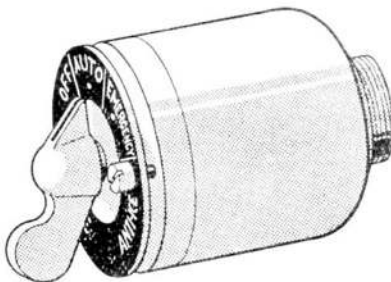

Fig. 1. Rotary switch, Type RS331, Mk. 2
2. A general view of the switch is given in fig. 1, with a sectional drawing in fig. 2. The switch has three positions, OFF, AUTO and EMERGENCY, the latter engraved with red letters; at each setting of the operating knob, indentations on an index plate carried on the shaft engage with two spring-loaded balls in the switch mounting (not illustrated in fig. 2), so giving a positive detent action. A cut-away portion of the index plate comes up against a stop pin in the switch mounting at each extreme of travel of the operating knob.